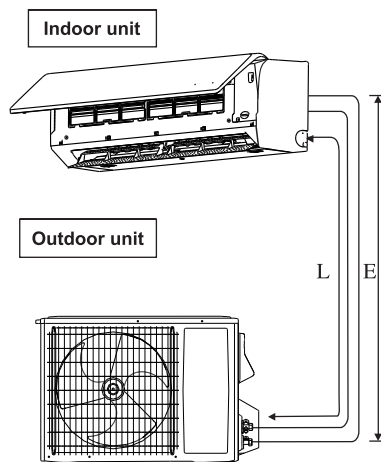
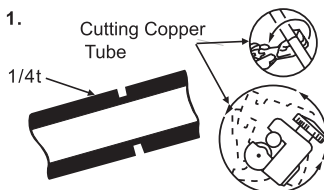

Fig 1.
Fig 2.
- Cut the pipe as straight as possible. (See Fig 1.) Make sure to use a deburring tool to remove any burrs. Hold the pipe with opening facing down to prevent metal chips from entering the pipe. (See Fig2.)